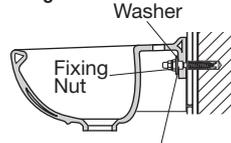

Fig 4
- 5- Locate basin onto the Lag Screws on the wall. Insert plastic bushes, metal washers and fasten to wall with fixing nut. To complete assembly as detailed in **Figure 4**.
- 6- The Plastic Bush allows for leveling adjustment if required by rotating the hexagonal head bush, the basin will be slightly raised or lowered as shown in **Figure 4**.